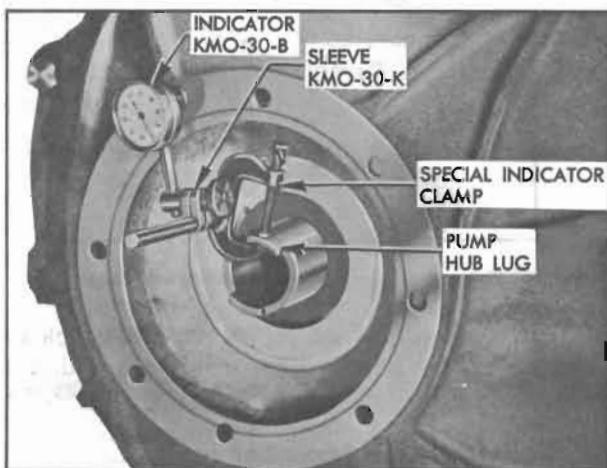

Figure 5-59—Checking Run-Out of Rear Face of Bell Housing
5. Attach the special dial indicator clamp to the oil pump driving lug on rear end of converter pump hub. **CAUTION: Do not clamp to bearing surface on hub.** Mount Dial Indicator KMO-30-B to bear against rear face of housing at a radius of $3\frac{3}{4}$ ". See figure 5-59.